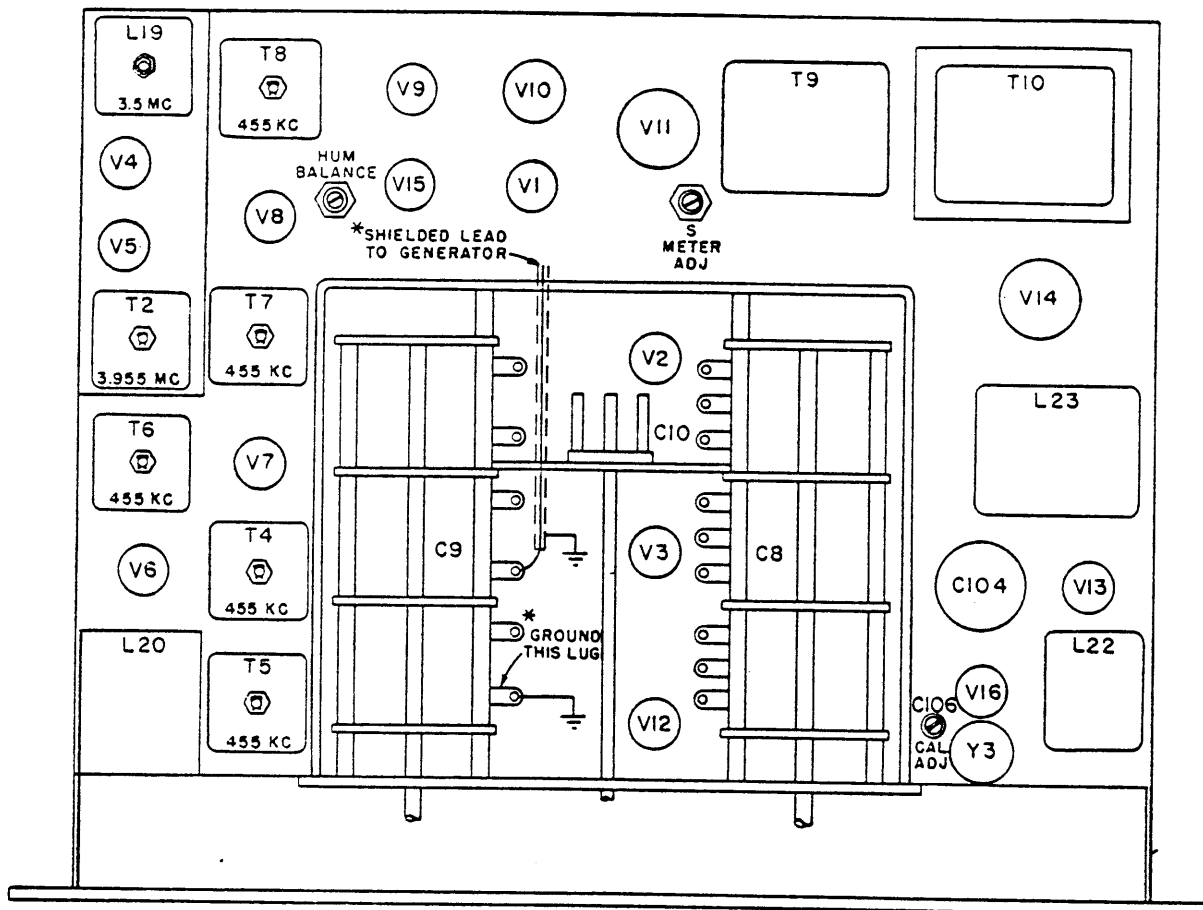

Figure 4-2. Receiver Chassis, Top View
b. As shown in Figure 4-2, ground one lug of main tuning capacitor and connect output lead from hf signal generator to other.
b. As shown in Figure 4-2, ground one lug of main tuning capacitor and connect output lead from signal generator to other.
c. In order, adjust i-f transformers T8, T7, T6, coil L20, and i-f transformers T5 and T4 (Figures 4-2 and 4-4) for maximum reading on vtvm.
b. Adjust coil L19 (Figure 4-2) until some deflection of vtvm is noted.
d. In order, adjust i-f transformers T3 and T2 (Figures 4-2 and 4-4) for maximum deflection
4-22 To adjust HUM BALANCE control R94 (Figure 4-2) proceed as follows:
- Adjust S METER ADJ control on top of receiver chassis (Figure 4-2) for S-meter reading of S-9.